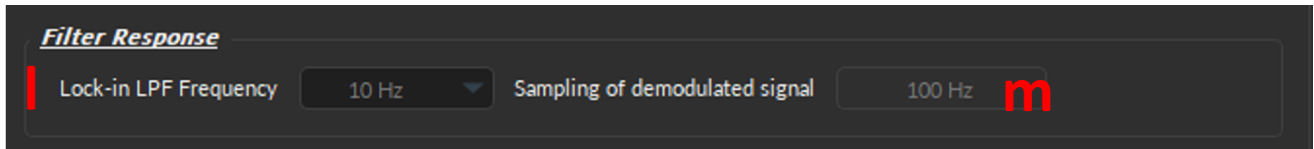

Figure 11.84: Lock-In, Filter Response
- l) The **Lock-in LPF Frequency** (Fig. 11.84, l) defines the **Cutoff Frequency** of the low-pass filter that extracts the signal and is set to 10 Hz by default. This value was selected because, in photometry experiments, the most significant noise source to the filter is around the carrier frequency above 200 Hz.
- m) The **Sampling of demodulated signal** (Fig. 11.84, m) is by default set to 100 Hz, and effectively serves as a 100x decimation. This value was selected because photometry signals are slow (>1 sec) and does not require such a high sampling resolution.